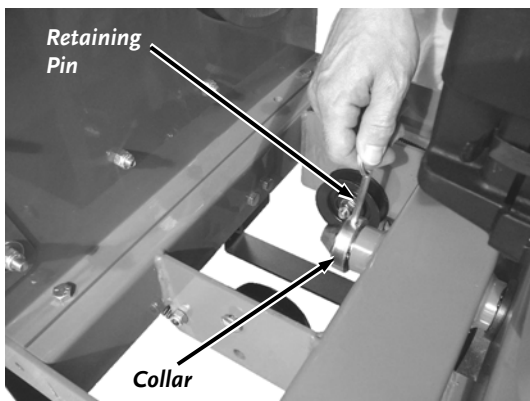

Figure 22
5. Reinstall the Pin and Collar onto the Mounting Shaft (Figure 22).